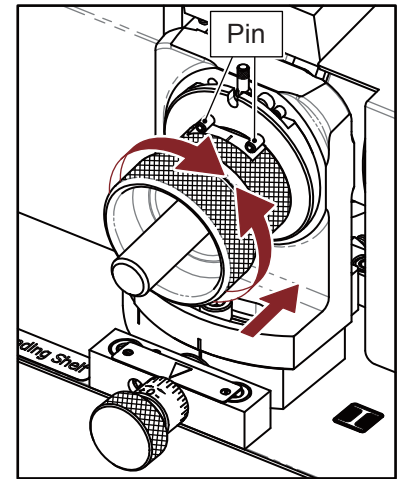

Fig. 5-12
1) 2 Flute Secondary Relief Grinding (I) (Fig. 5-12)